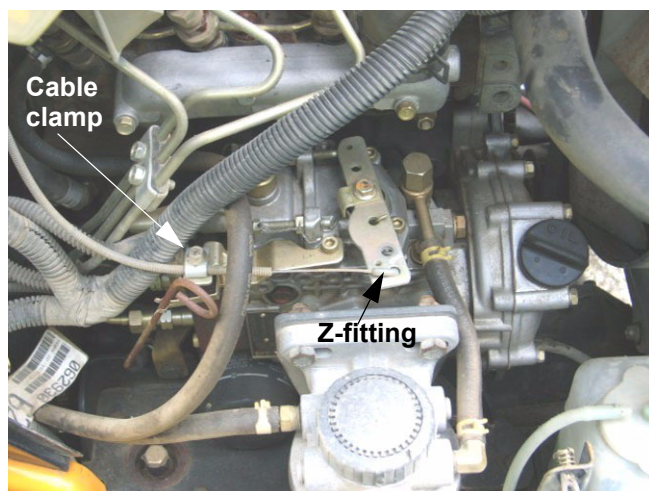

Figure 1.14
- 1.14. On Briggs & Stratton / Daihatsu engines, a Z-fitting connects the cable to the pump. An 8mm wrench will fit the screw on the cable clamp. See Figure 1.14.